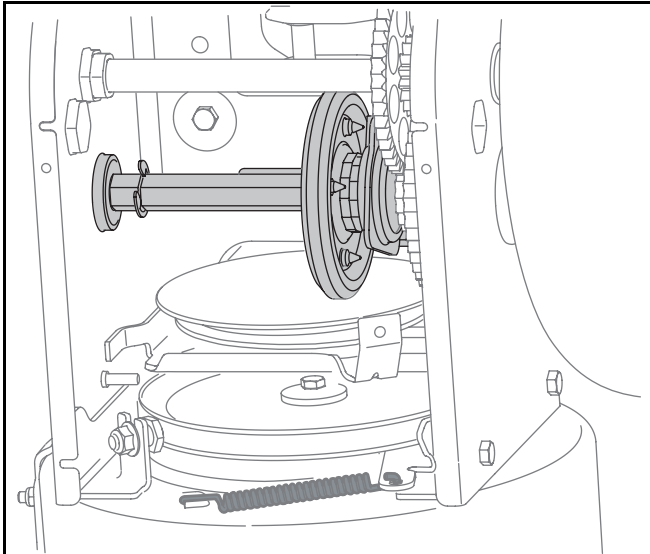

Figure 7
- Apply a light coating of an all-weather multi-purpose grease to the hex shaft. See Figure 7.